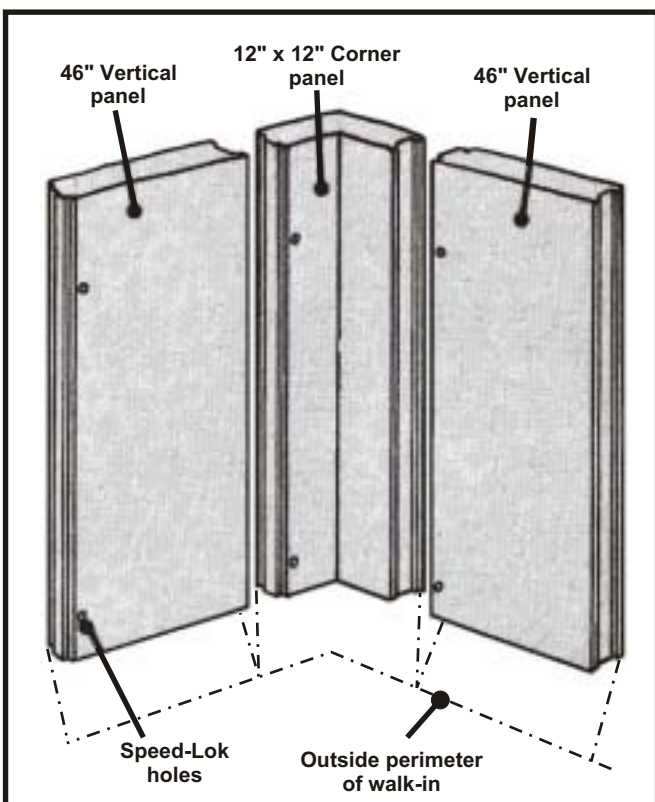

Fig. 21
- F. Position a vertical panel to the right and left of the corner panel (as per plan view) and flush with the perimeter line. See Fig. 21. Once these panels have been aligned properly, fully engage all vertical-to-vertical locks.